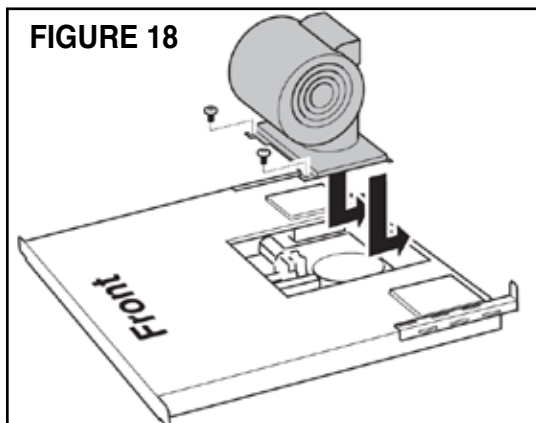

FIGURE 18
- Mount the blower on the front of the hood using two screws while positioning the vent collar in the opening of the cover (FIGURE 18)